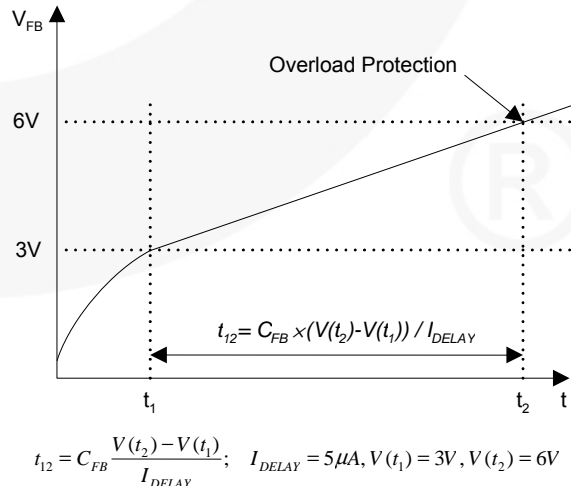

**Figure 14. Pulse Width Modulation (PWM) Circuit**
**2. Feedback Control:** The 700V FPS series employs Current Mode control, as shown in Figure 14. An optocoupler (such as the H11A817A) and shunt regulator (such as the KA431) are typically used to implement the feedback network. Comparing the feedback voltage with the voltage across the Rsense resistor of SenseFET, plus an offset voltage, makes it possible to control the switching duty cycle. When the regulator reference pin voltage exceeds the internal reference voltage of 2.5V; the optocoupler LED current increases, feedback voltage Vfb is pulled down, and the duty cycle is reduced. This typically occurs when the input voltage increases or the output load decreases.
**4.3 Over-Voltage Protection (OVP):** In the event of a malfunction in the secondary-side feedback circuit or an open feedback loop caused by a soldering defect, the current through the optocoupler transistor becomes almost zero (refer to Figure 14). Then,  $V_{FB}$  climbs up in a similar manner to the overload situation, forcing the preset maximum current to be supplied to the SMPS until the overload protection is activated. Because excess energy is provided to the output, the output voltage may exceed the rated voltage before the overload protection is activated, resulting in the breakdown of the devices in the secondary side. To prevent this situation, an Over-Voltage Protection (OVP) circuit is employed. In general,  $V_{CC}$  is proportional to the output voltage and the FPS uses  $V_{CC}$  instead of directly monitoring the output voltage. If  $V_{CC}$  exceeds 19V, the OVP circuit is activated, terminating switching. To avoid undesired activation of OVP during normal operation,  $V_{CC}$  should be designed to be below 19V.